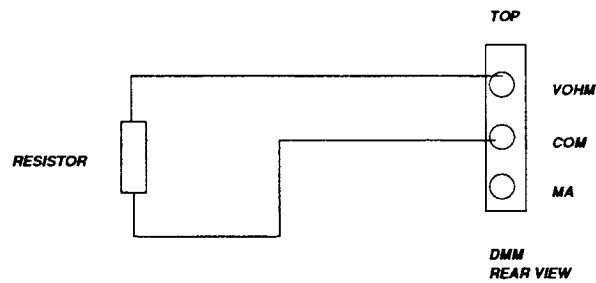

Figure 7-3. Connection of Calibration Resistor
2. Connect the AC calibrator the HI and LO INPUT terminals of the PCIP-DMM/A as shown in Figure 7-3.